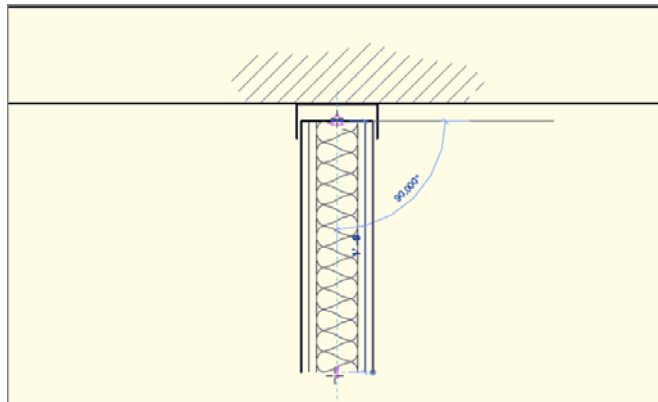

FIGURE 12.74: Drawing the insulation
5. Place the insulation starting at the midpoint of the top of the stud, and terminate the insulation at the bottom of the stud, as shown in Figure 12.74. You're lucky the width fits perfectly. If it didn't, you could change the width on the Options bar.